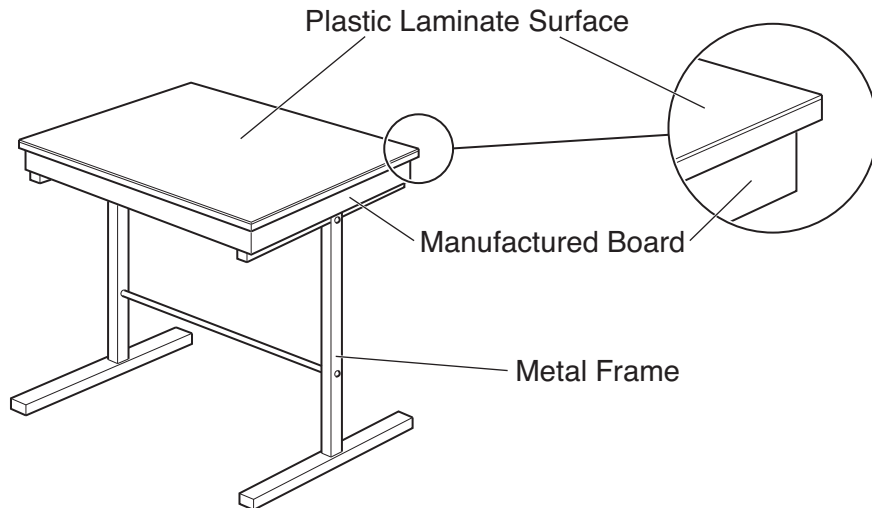

Fig. 1
- 1 Fig.1 shows a desk used in schools. The desk has a metal frame. The desk top is made from a manufactured board with a plastic laminate surface.